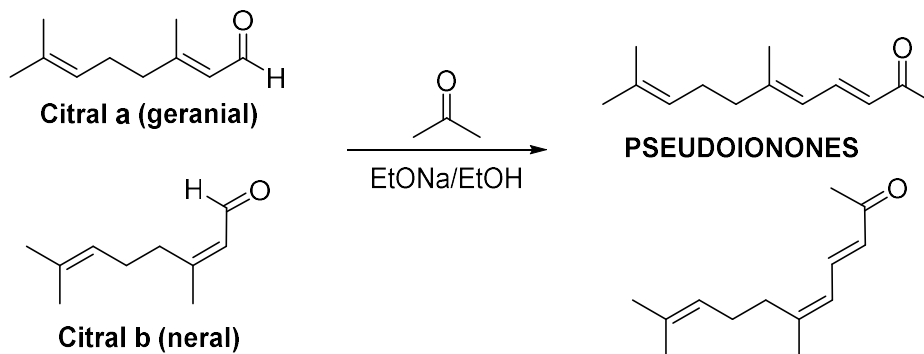
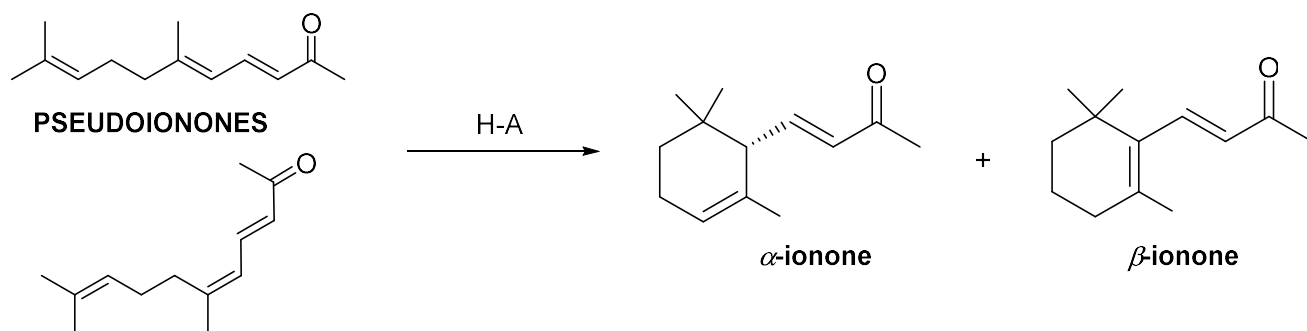

Figure 2. Synthesis of pseudoionones *via* aldol condensation
Figure 3. Acid-catalyzed cyclization of **pseudoionones**
The synthesis of ionones is an important industrial process. Ionones are not only used in perfumery, but they are also key intermediates in the manufacture of vitamin A. Both ionones can be prepared *via* aldol condensation of citrals with acetone followed by acid treatment (**Figure 2**). Evaluate the structures below to identify which bond is formed by aldol condensation.
Citral is a mixture of the two *E/Z* stereoisomers of 3,7-dimethyl-2,6-octadienal. **Citral a** or **geranial** (*E* isomer) and **citral b** or **neral** (*Z* isomer) are the main components of lemongrass oil. The aldol condensation of citrals with acetone in the presence of sodium ethoxide gives a mixture of two products, **pseudoionones**, which differ only in the geometry of the double bond between C5 and C6 (**Figure 2**). Note that in making the **pseudoionones**, the newly formed double bond between C3 and C4 has *trans* geometry.
Treatment of **pseudoionones** with acid induces cyclization to α - and β -ionones (**Figure 3**). Depending on the nature and concentration of the acid, the formation of one isomer is preferred over the other. The products obtained in the presence of sulfuric or phosphoric acids are different; in each case mainly one isomer, either α - or β -ionone is obtained.
- **Purpose:** Reaction scheme – **Figures 2 (week 1) & Figure 3 (week 2)** - starting material, reagents, product, other chemicals used